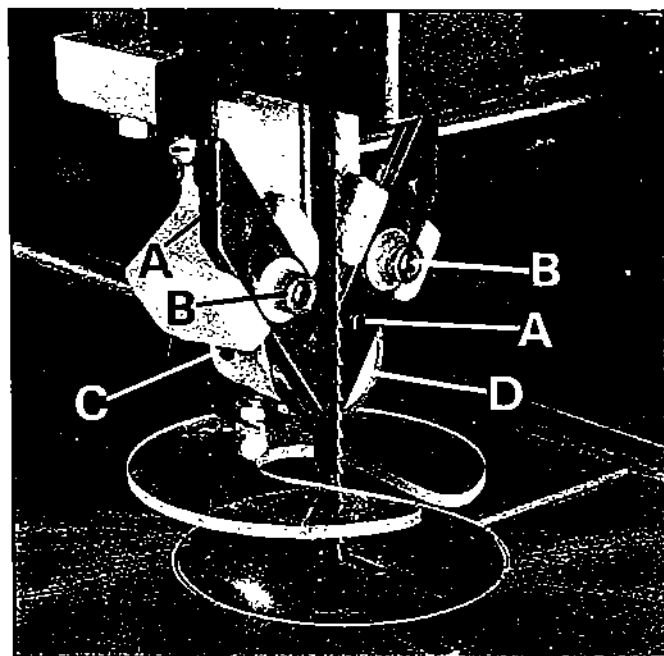

Fig. 5
The upper and lower blade guides are to be adjusted only after the blade is tensioned and is tracking properly. The blade guide plates (A) Figs. 5 and 6, are fastened to the blade guide brackets as shown. A total of 28 individual guide plates are supplied to accommodate any blade width up to 1". Guide plates can be added or removed from the blade guide brackets depending on the width of the blade being used, as follows:
1. To add or remove guide plates (A) Figs. 5 and 6, remove the four screws and washers (B). Add or remove the necessary number of guide plates (A) until the front edge of the guide plates are just behind the bottom of the saw blade tooth gullets, leaving all of the set portion of the blade free of the guide. Then tighten the four screws (B). NOTE: This adjustment is critical since the teeth of the blade will be damaged if the guide plates are too far forward. If the guide plates are too far back the blade will not be adequately supported.
2. The upper and lower blade guide plates (A) Figs. 5 and 6, should be parallel to each other and as close as possible to the blade without binding it. Rotate the upper wheel by hand, causing the entire length of the blade to pass through the guide plates. This is done to be sure the weld or braze (where extra thickness may be found) will not bind. If necessary, separate the guide plates to accommodate the extra thickness.
1. Loosen the bearing support screw (C) Fig. 5, and adjust the support bearing (D) to within  $1/64$ " of the blades rear edge. In essence, the blade support bearing (D) Fig. 5, should be adjusted as closely as possible to the rear edge of the blade so as not to rotate whenever the blade is running free without cutting. When the blade is cutting it will be pushed back to the rear and the support bearing will then rotate.